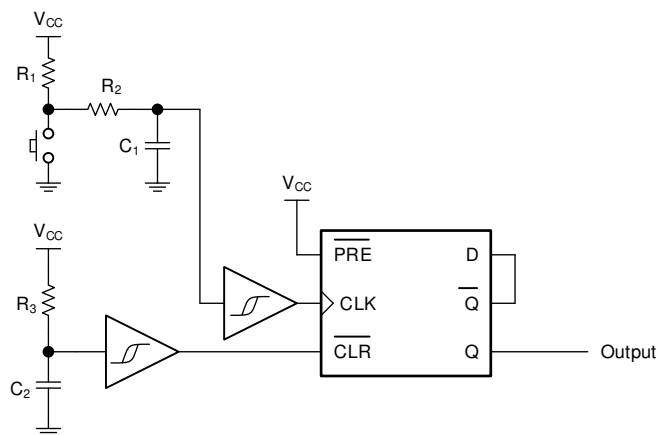

Figure 9. Typical application schematic
If the data input (D) of the SN74HC74-Q1 is tied to the inverted output (\overline{Q}), then each clock pulse will cause the value at the output (Q) to toggle. The momentary switch can be debounced and connected to the buffered clock input (CLK) to toggle the output. These connections are shown in Figure 9.